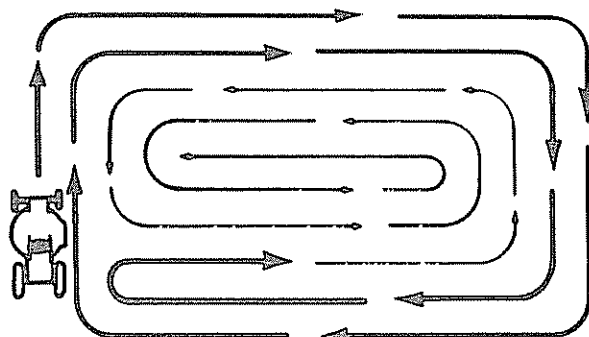
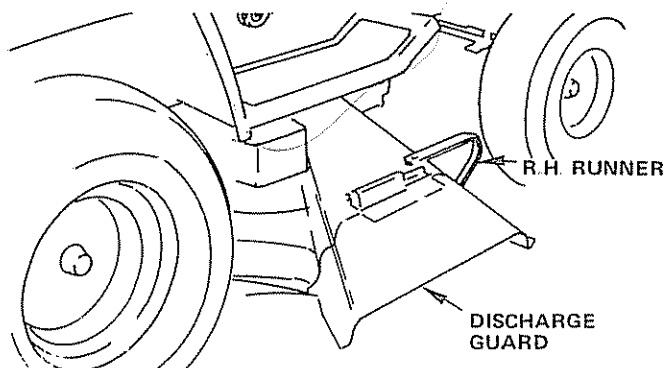

FIGURE 21
FIGURE 22
6. Drive so that clippings are discharged onto the area that has been cut. Have the cut area to the right of the machine. This will result in a more even distribution of clippings and more uniform cutting. When mowing large areas (Fig 21) start by turning to the right so that the clippings will be discharged away from shrubs, fences, driveways, etc. After two or three rounds, mow in the opposite direction making left hand turns until finished. If grass is extremely tall, it should be mowed twice. The first time cut relatively high. The second time to the desired height. The left hand side of mower should be used for trimming. Use the Runner on the right hand side as guide; the blade cuts approximately an inch outside the runner (Fig. 22).
Your mower has a flip-up Discharge Guard (Fig. 22) for door or gate clearance when held in raised position